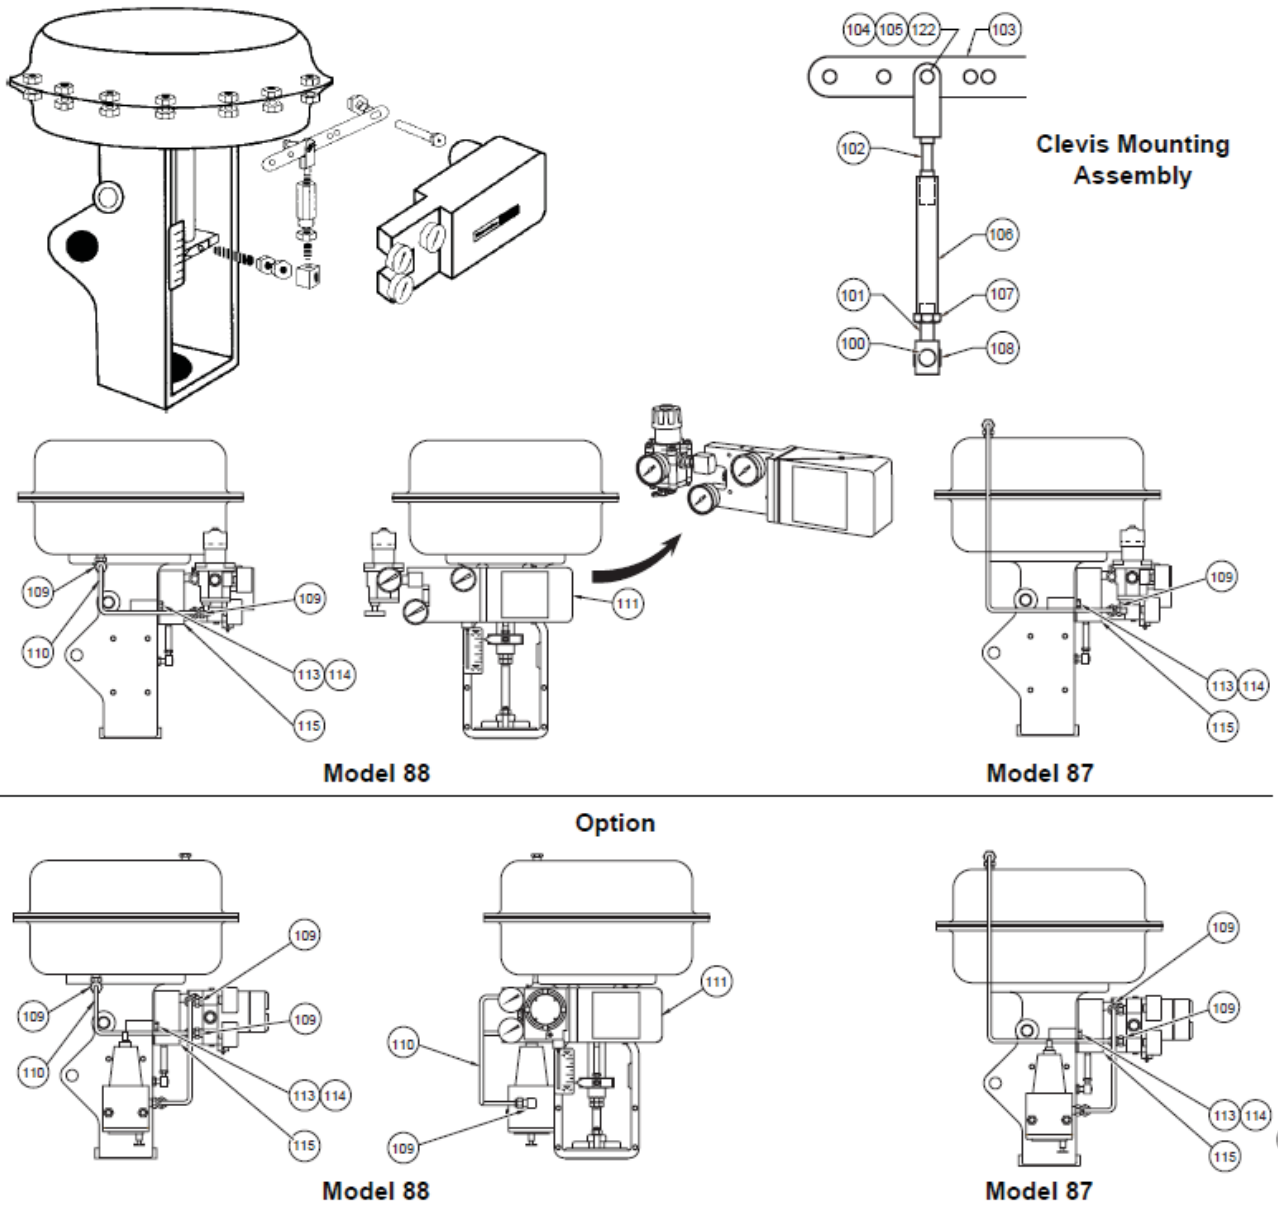

Figure 5 87/88 Actuator
1. Using screws (113) and lockwashers (114), mount bracket (115) on actuator with opening located to the right side of the bracket (Figure 5).
2. Install input shaft (42) in post hub with a washer (40) on each side of the hub and retaining ring (37) on cam end.
3. Mount back lever (103) to input shaft using screw (38) and lockwasher (39).
4. Install clevis (102), clevis pin (104), washer (122), and retaining clip (105) in the proper location on the back lever. Location is based on valve stroke required.